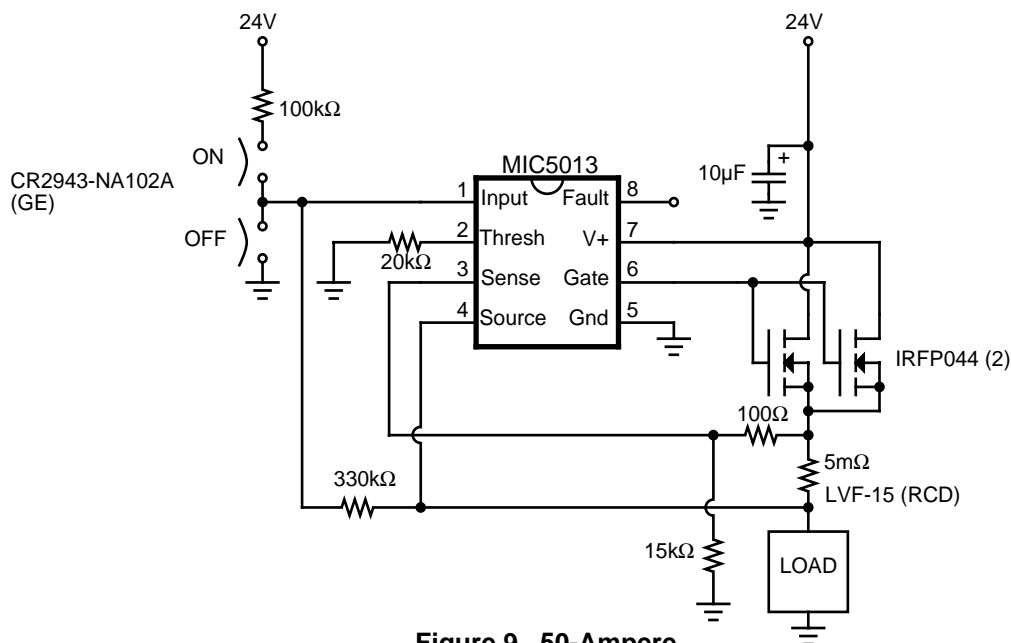

Figure 9. 50-Ampere Industrial Switch
Fault-Protected Industrial Switch (Figure 9). The most common manual control for industrial loads is a push button on/off switch. The "on" button is physically arranged in a recess so that in a panic situation the "off" button, which extends out from the control box, is more easily pressed. This circuit is compatible with control boxes such as the CR2943 series (GE). The circuit is configured so that if both switches close simultaneously, the "off" button has precedence. If there is a fault condition the circuit will latch off, and it can be reset by pushing the "ON" button.